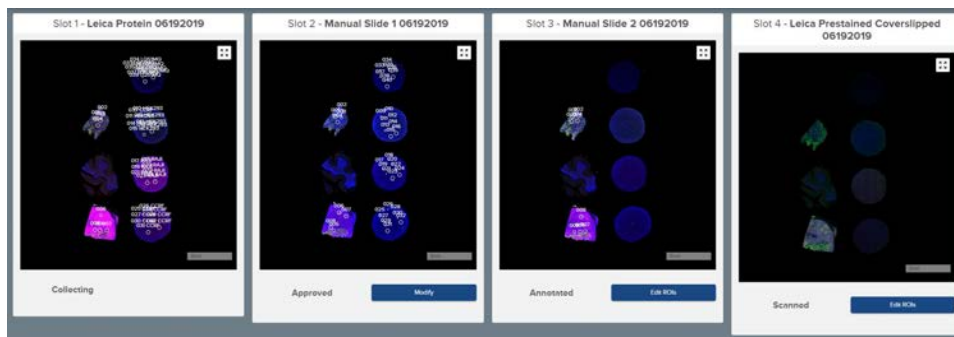

Figure 48: Scan status messages and buttons
3. **Repeat steps 7 - 10 for each slide.** Use the **Edit ROIs** button to open the Scan Workspace for each scan image. Once ROIs have been saved and approved on a scan image, the button below it will change to **Modify**(see Figure 48). You may modify ROIs until it is time for them to be collected.